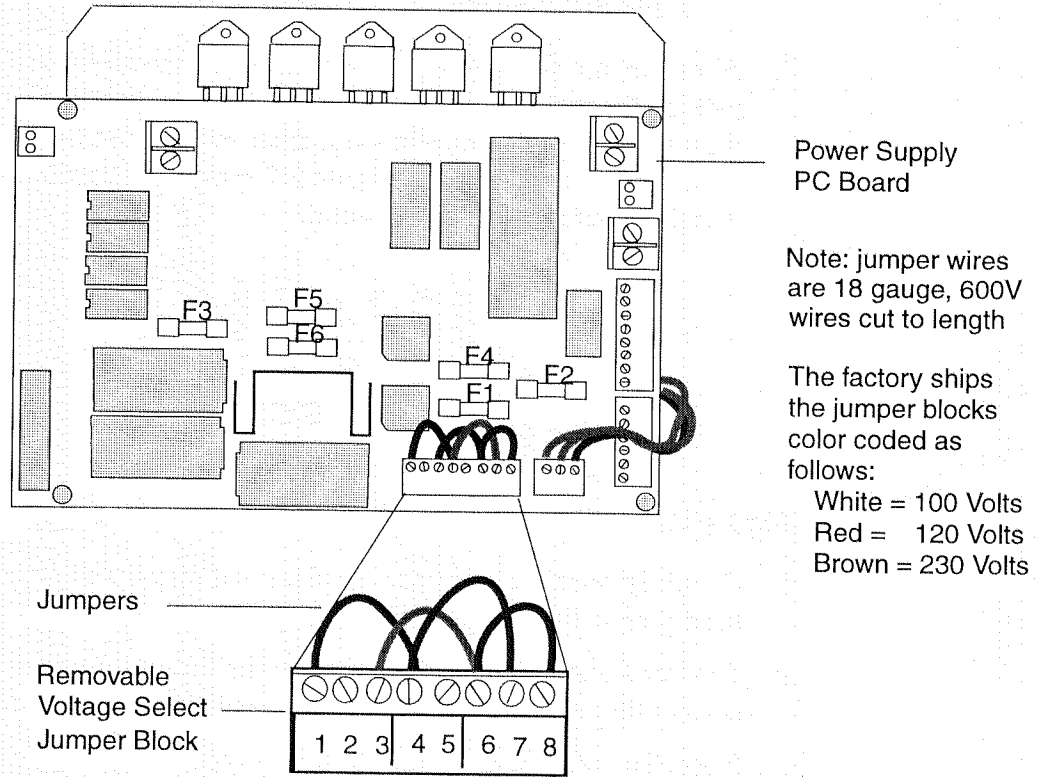

Figure 2.5. Power Supply Board and Voltage Select Jumper Block
4. Mounted just inside the fixture is the power supply printed circuit board. Locate the multi-pin "voltage select jumper block" connector on the lower right side of the circuit board as Figure 2.5 shows.